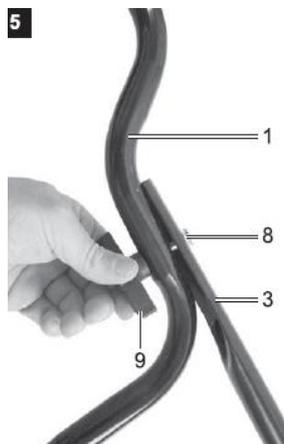

Fig. 5
2. Attach the frame tube (3) and handle (1) to the lower parts of the handle using square head bolts (8) and wing nuts (9) (see Figure 5).
The optimal cultivation patterns of the plot are shown in Fig. 5.